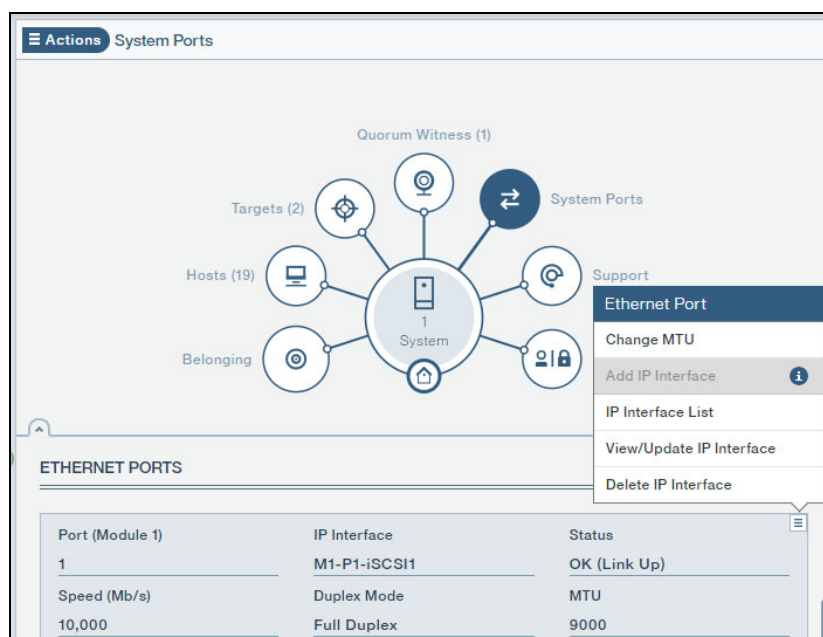

Figure 2-16 Retrieving the IP port properties
To set up the iSCSI port by using the GUI, see Figure 2-16 and complete the following steps:
4. Click the **Actions** icon for a particular port, and if the port is configured, select **View/Update IP Interface**; otherwise, select **Add IP Interface** (see Figure 2-16).
7. From the Actions menu that is shown in Figure 2-16 on page 64, you can also change the MTU value.